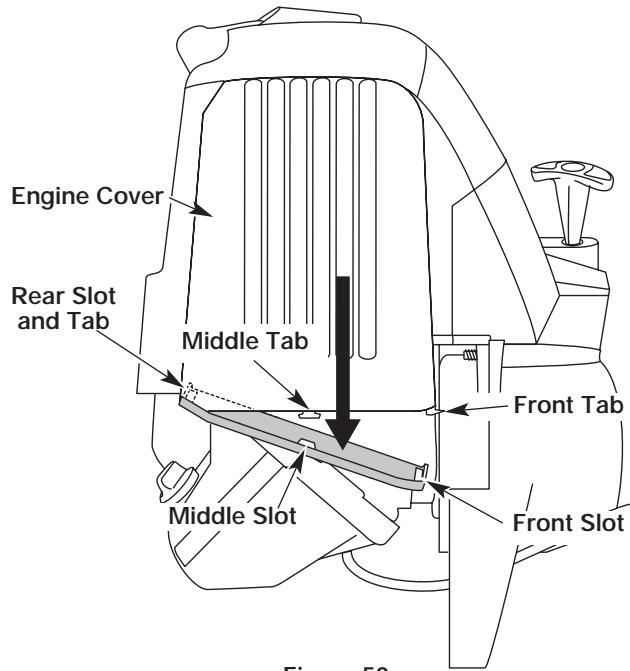

Figure 50
1. Remove the muffler cover by pressing down on it, separating it from the engine cover. Using a flat blade screwdriver, disengage the middle and front tabs and slots first. The cover will hinge off from the rear tab. See Figure 50.
13. Reinstall the muffler cover. Slip the rear tab on the muffler cover into the engine cover rear slot. Then slide the remaining slots into the tabs until they snap into place. See Figure 50.